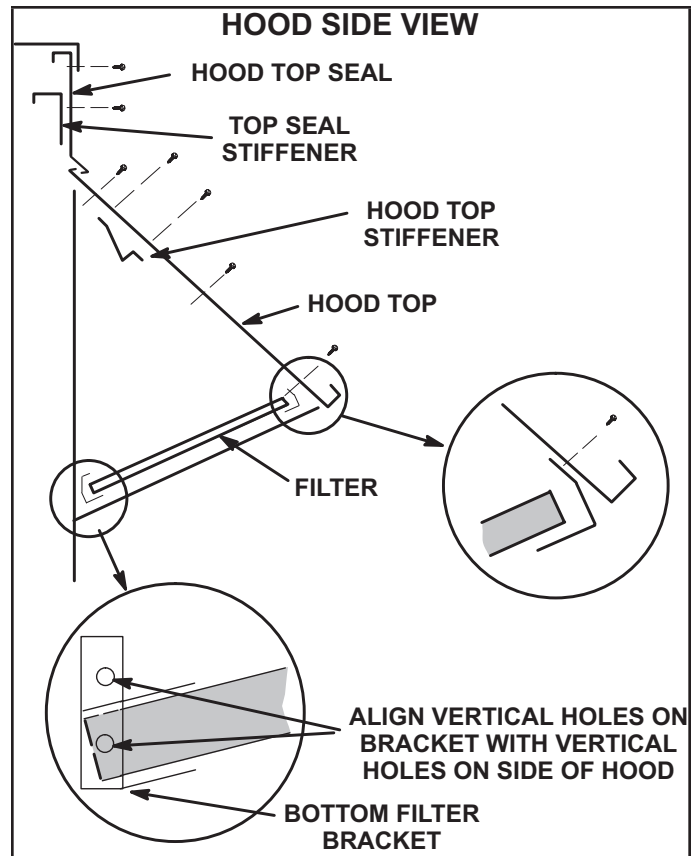
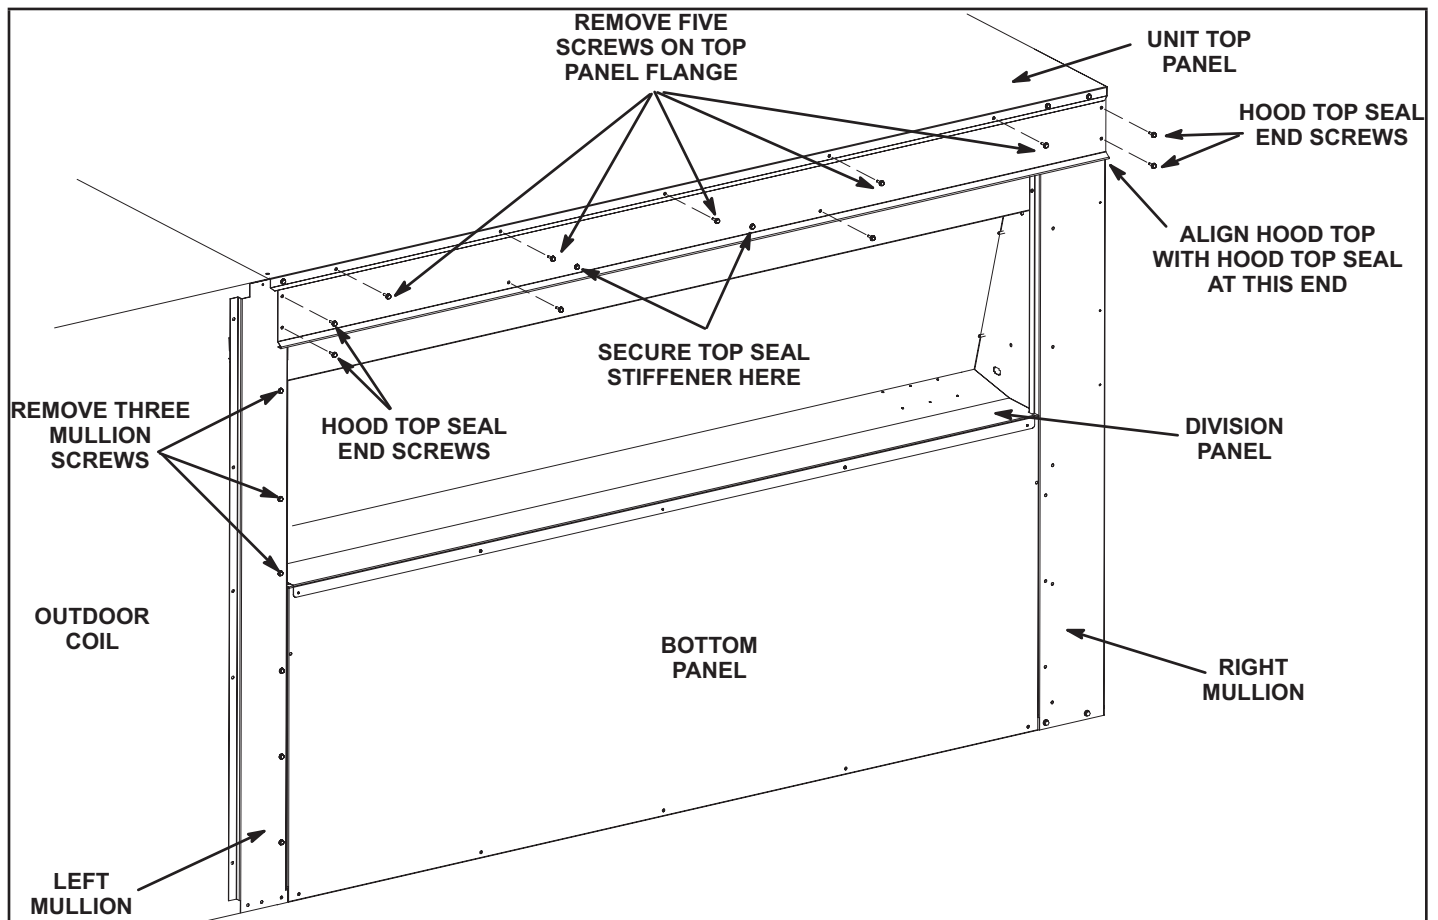

FIGURE 5
FIGURE 4
The outdoor air hood is packaged separately but attached to the damper assembly crate. Use #10 self drilling screws to install hood unless noted otherwise. Refer to FIGURE 4 through FIGURE 9.
- 2 - Secure top seal stiffener to back side of hood top seal. See FIGURE 4 and FIGURE 5.
- 3 - Slide hood top seal under unit cabinet top and secure using five retained top screws. Install, but do not tighten, the two screws on each end of the hood to seal. Refer to FIGURE 5.
- 4 - Remove and retain top three screws on the left mullion of the outdoor air section. See FIGURE 5.
- 6 - Position the hood top edge V-channel under the corresponding V-channel on the hood top seal and slide into place from right to left. See FIGURE 4 and FIGURE 5.
- 15 - Secure bottom filter bracket to right hood side in the same manner. See FIGURE 4 and FIGURE 9.
- 17 - Secure the top filter bracket (long) to the hood top. See FIGURE 3 and FIGURE 5. Slide two filters into place.
- 18 - Insert the third filter into the bottom filter bracket. Position the top filter bracket (short) as shown in FIGURE 4 and FIGURE 6. Secure the bracket to the hood top with screws.